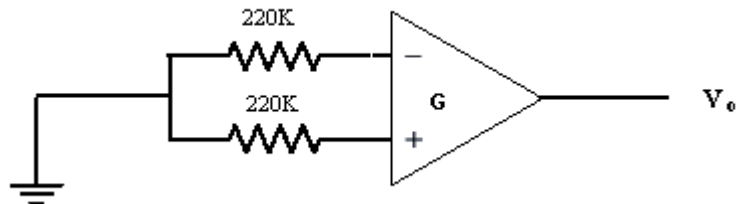

Figure 6-4: Circuit for measuring offset current.
- Connect the circuit in Figure 6-4. And apply the $\pm 15V$ power. Then, measure the voltages across the two 220k resistors.